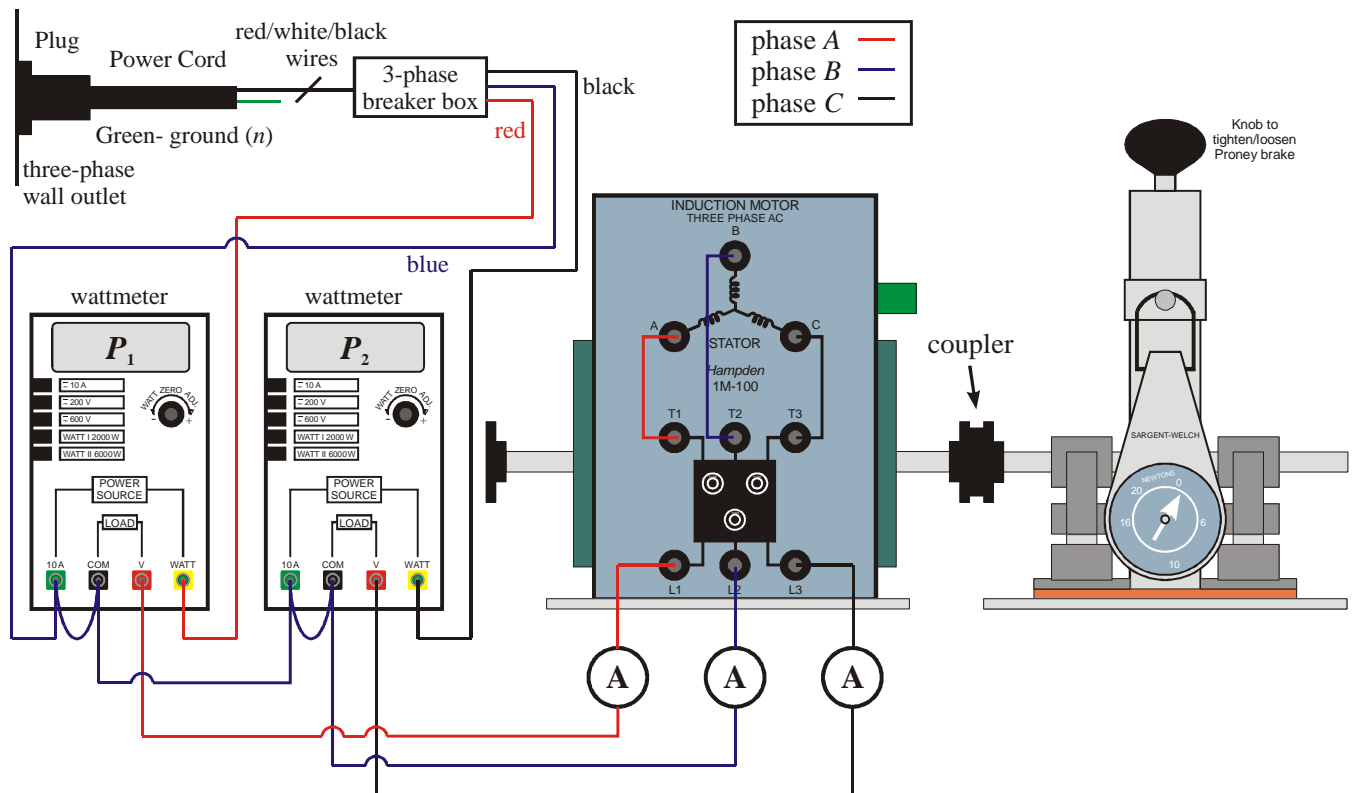

Figure 4 Set-up for Load Test (Experiment 4).
- 1) Connect the induction motor as shown in Figure 4. Note that it is configured the same as for the locked rotor test with the exception that the variac is not used. Measure the radius R_{proney} of the Prony brake flywheel.
- 3) In a table, starting with the Prony brake loose (scale reads 0 N), measure and record the line currents $I_{L,A,LD}$, $I_{L,B,LD}$, & $I_{L,C,LD}$, line-to-line/terminal voltages $V_{T,AB,LD}$, $V_{T,BC,LD}$, & $V_{T,CA,LD}$, powers $P_{1,LD}$ and $P_{2,LD}$, shaft speed n_m (RPM), and applied force F_{app} (N). With the motor running, tighten the Prony brake (turn CW) in steps of 2 N and repeat until the maximum scale value of 20 N is reached (or until the Prony brake won’t tighten anymore). Note the needle on the scale will vibrate, adjust Prony brake until your ‘eyeball-average’ is at the desired value. As a caution, the Prony brake tends to loosen after a minute or so, keep an eye on it to ensure accurate data.